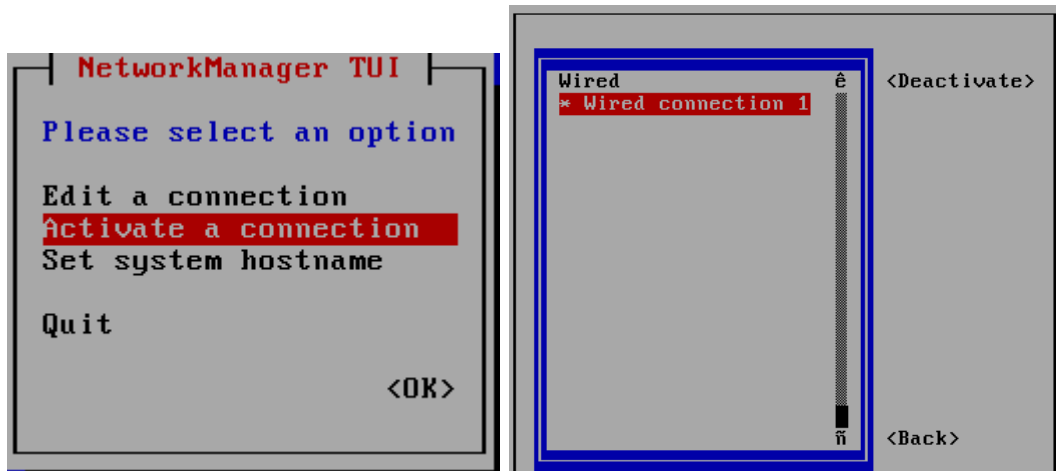

Figure 23. Connection Activation
- h) Returning to 'NetworkManager TUI' page follows the Operations in the Figure 23. Check whether the connection is active and return to the 'NetworkManager TUI'
page. (To be active, it should look like the Figure 23). Finally, 'Quit' is output from the tab.